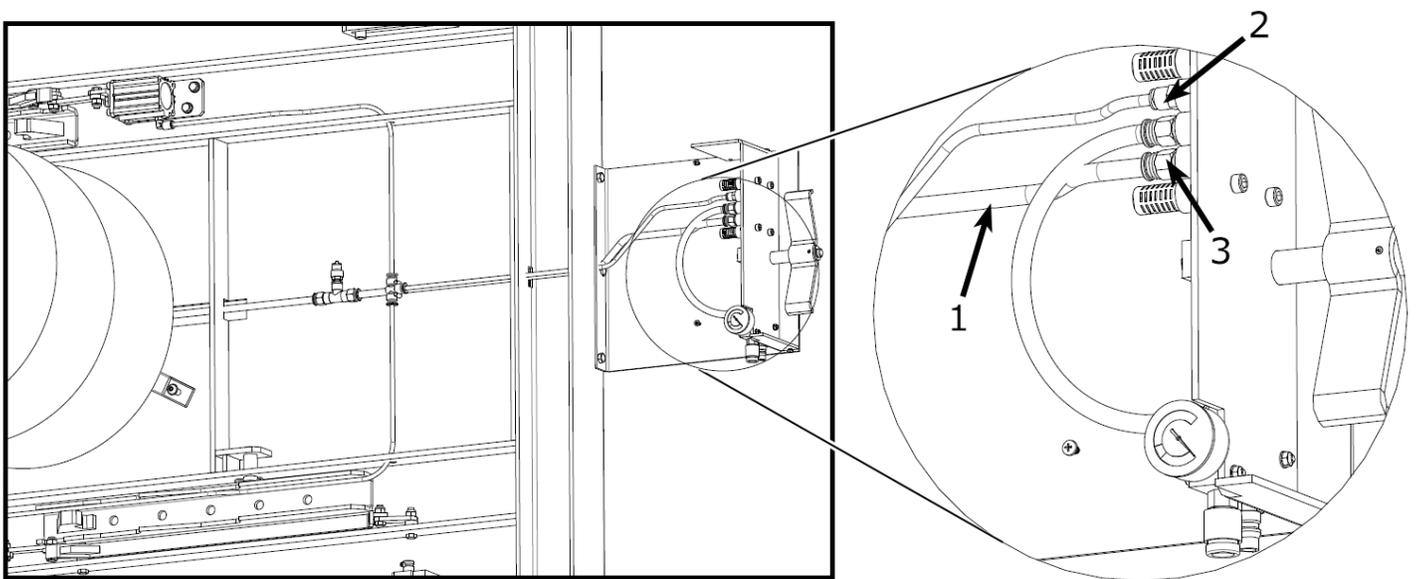

Figure 13 – Pneumatic System Connection
- Using a normal compressed air gun, blow the compressed air into the air spring through the larger pipe (1/ Fig. 13) projecting from the base until the lift is raised fully and the mechanical safety is engaged.
- Insert 2 pipes projecting from the base into the holes on the pedal board and connect them to the respective unions as shown in the Figure 13. Pay attention that the smaller pipe D.6 should be connected to the union (2/ Fig. 13) and the larger pipe D.10 should be connected to the union (3/ Fig. 13).